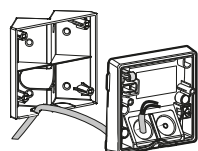
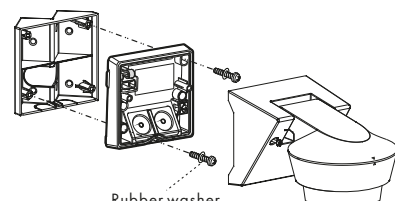

FIG. 11-C
FIG. 13
- 3.4.2.2 Break the desired screw knock-outs (See FIG. 11-A). Then fix the mounting bracket onto recess/conner with wood screws (See FIG. 12-A & FIG. 12-B), and fix bottom cover on mounting bracket (See FIG. 13). Refer to FIG. 5 to connect power cables, then fix the detector head to the bottom cover and adjust the detector head to be in the correct position.